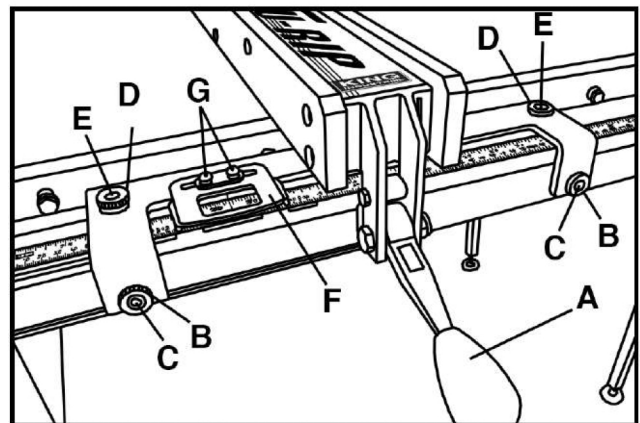
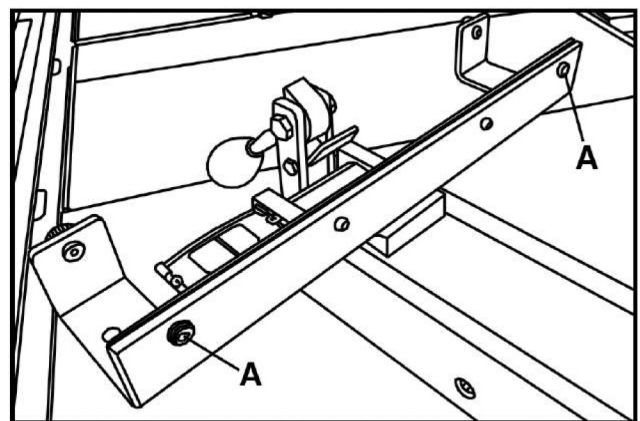

Fig.22
Fig.23
1.The rip fence must be perfectly aligned with the table T-slot, to verify this, align the edge of the rip fence with the table T-slot and lower the locking lever (A)**Fig.22** to lock in into place. Check to see if the edge of the rip fence and the table T-slot are parallel. If they are not parallel, unlock the rip fence and turn it upside down. Adjust the set screws (A) as **Fig.23** in or out, verify your adjustment, repeat if
2.The lock lever pressure can be adjusted by loosening the front lock nuts (B) as **Fig.22** and adjusting the set screws (C) the same amount, make sure the fence remains parallel with the table T-slot. Retighten lock nuts.
3.To set the fence perpendicular to the table, place a square on the table and against the side of the fence, loosen the top lock nuts (D) and adjust the setscrews (E) until the fence is perpendicular. Retighten lock nuts.
4.The pointer window (F) as Fig.22 position can be adjusted if needed, loosen pan head screws (G), reposition the pointer window and retighten pan head screws.